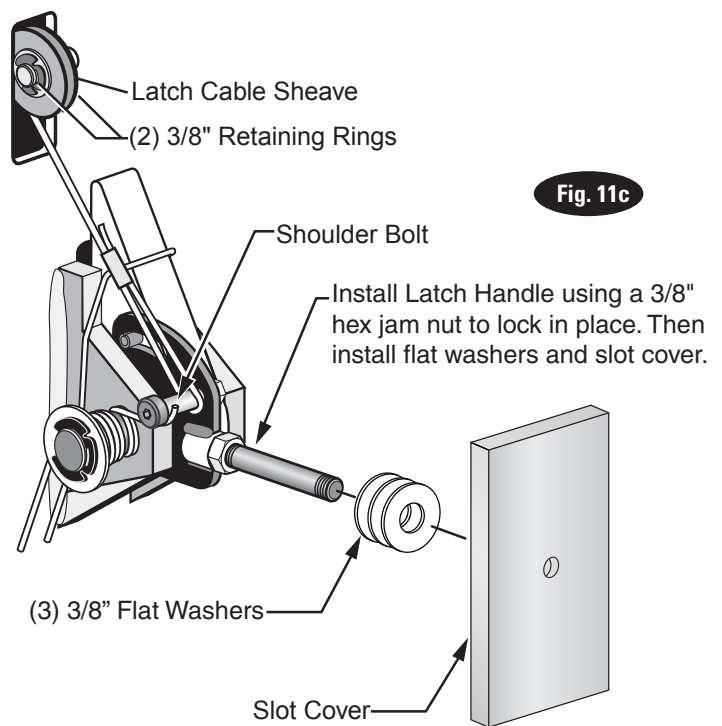
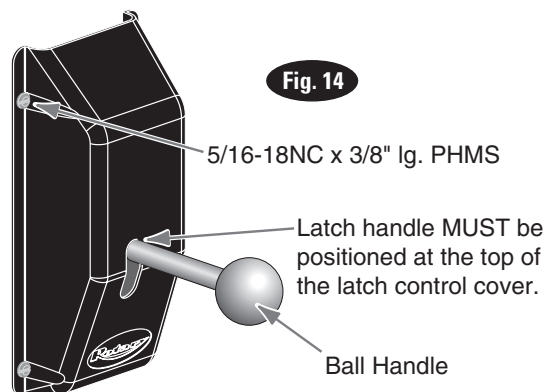

Fig. 11c
Fig. 14
- A) Install latch cable sheave and retaining rings in upper slot of power unit column as shown, Fig. 11c.
- B) Slip loop end of cable over end of shoulder screw on right side latch control plate, Fig. 11c.
- C) Feed the other end of the cable through the latch cable sheave slot making sure that the cable is running under the bottom side of the latch cable sheave and inside the right column, Fig. 11c.
- J) At this point you **MUST** install the latch handle, jam nut, and right column latch cover Fig. 11c & Fig. 14. Install latch handle ball, Fig. 14.